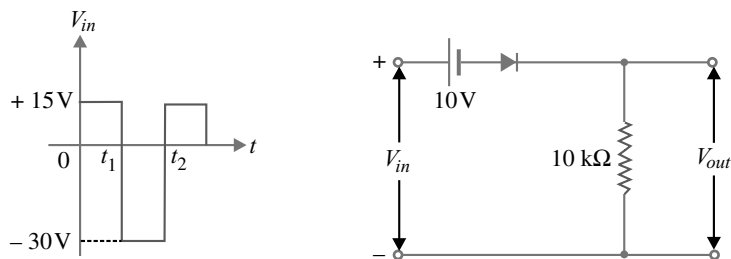

Fig. 16.45
**Example 16.18.** For the input wave to the clipping circuit in Fig. 16.45, find the output waveform.